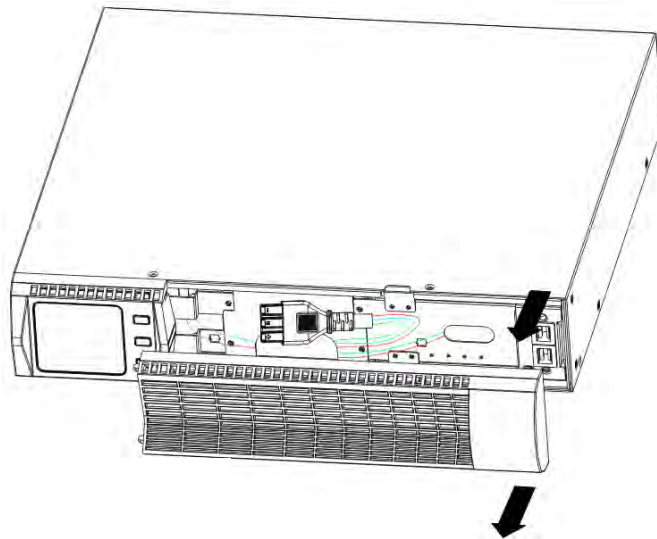

FIG.11 Removing the EBP Front Cover
2. On the bottom of the UPS front cover, remove the EBP cable knockout (see FIG. 11).